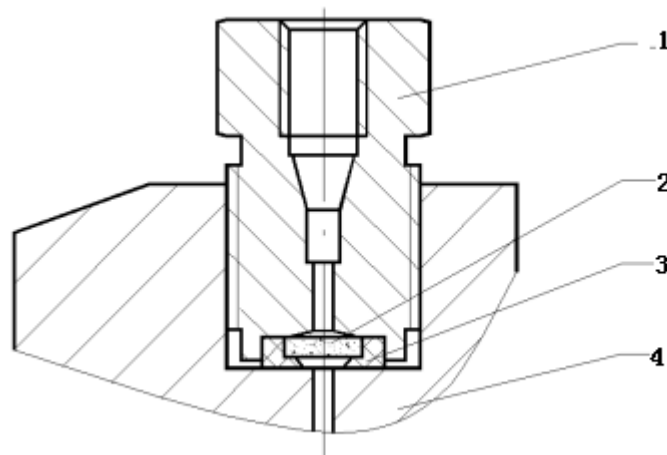

Figure 5-3: Assembly of the online filter
- 4) When installing the pump head, pay attention to evenly tighten the four fixed screws, referring to figure 5-3.